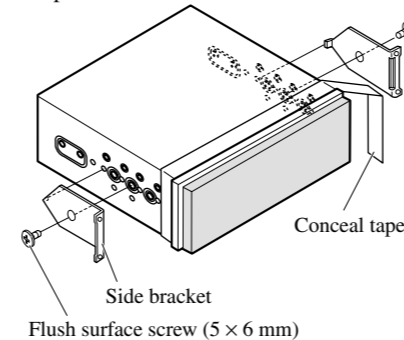

Fig. 15
1. **Decide the position of the side brackets. (Fig. 15)**